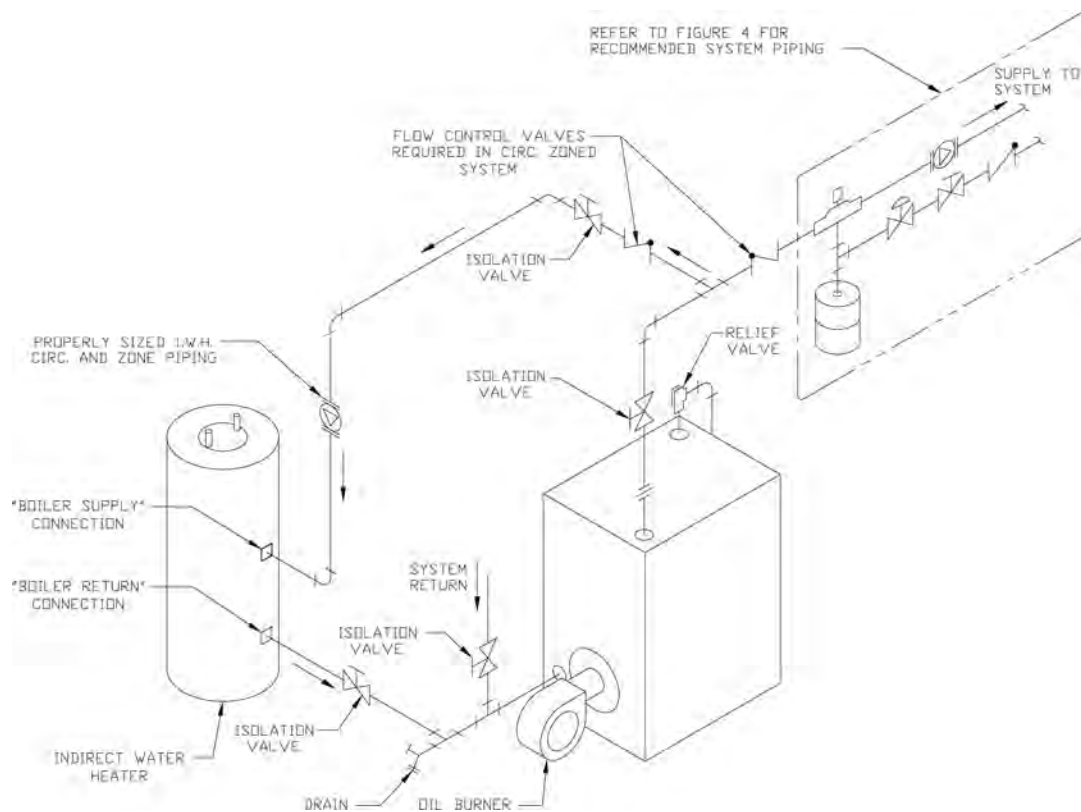

Figure 20: Indirect Water Heater Piping on CL Series Water Boiler
1. CL SERIES WATER BOILER - Figure 20 shows indirect water heater piping on typical hot water heating system. Boiler piping is the same as for any two-zone system. Figure 20 shows circulator zoning, which is usually preferred for indirect water heaters. Size the circulator and indirect water heater piping to obtain the boiler water flow through the indirect water heater called for by the indirect water heater manufacturer. Refer to the indirect water heater instruction manual for additional details.